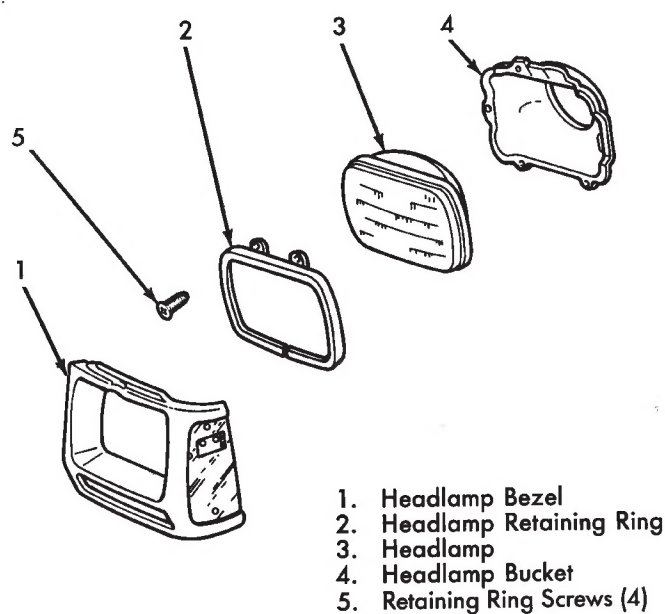

Fig. 4 Headlamp Components
(1) Remove the screws and the headlamp bezel (Fig. 4).
(2) Remove the screws and headlamp bulb retaining ring.
(3) Disconnect the headlamp bulb wire harness connector and remove the bulb from the bucket.